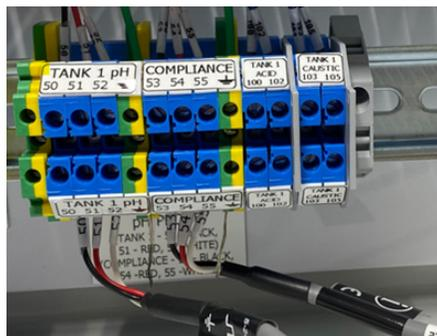

Figure 4
4.4. Connect pH Probes (Figure 4)